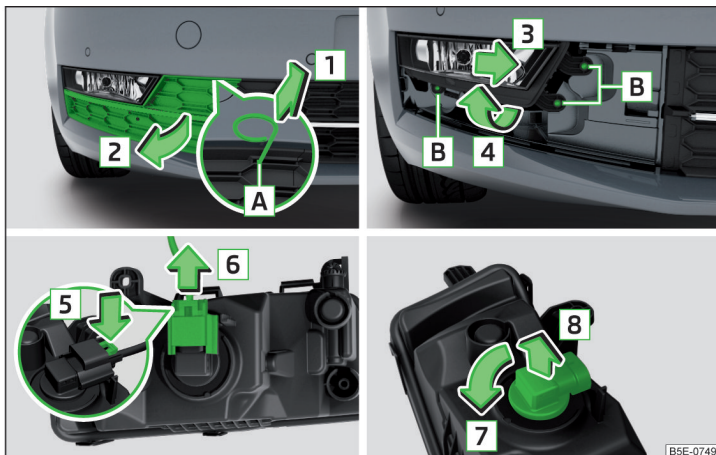

Fig. 358 Remove the fog lamp / bulb change - variant 1
» Fig. 358.
- Insert the fog light opposite to the direction of arrow **4** » Fig. 358, push opposite to the direction of arrow **3** and bolt into place.